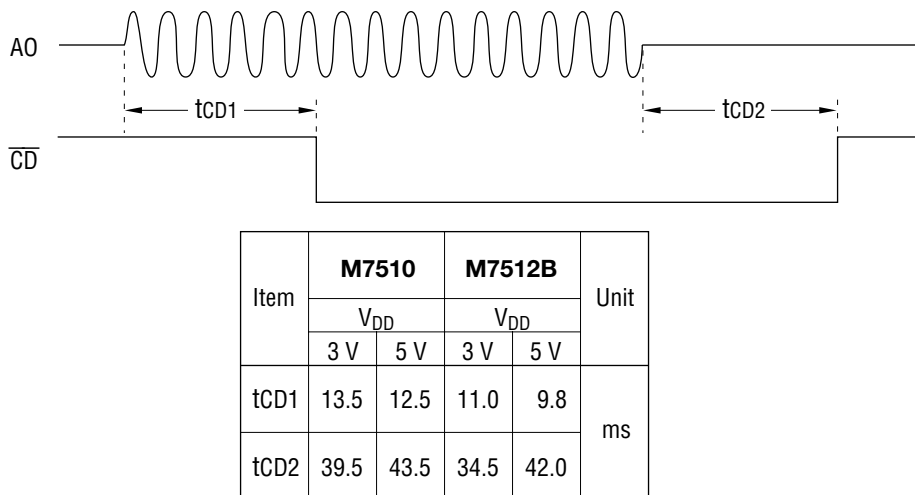

Figure 9-2 Response Time for Receive
**Note:** In the tCD2 period shown in Figure 9-2, after receiving normal data, RD may output data other than the receive data. This is because the demodulator output is received when CD timer off is operating, to prevent any instant cutoffs. If this event causes difficulties, handle them externally.